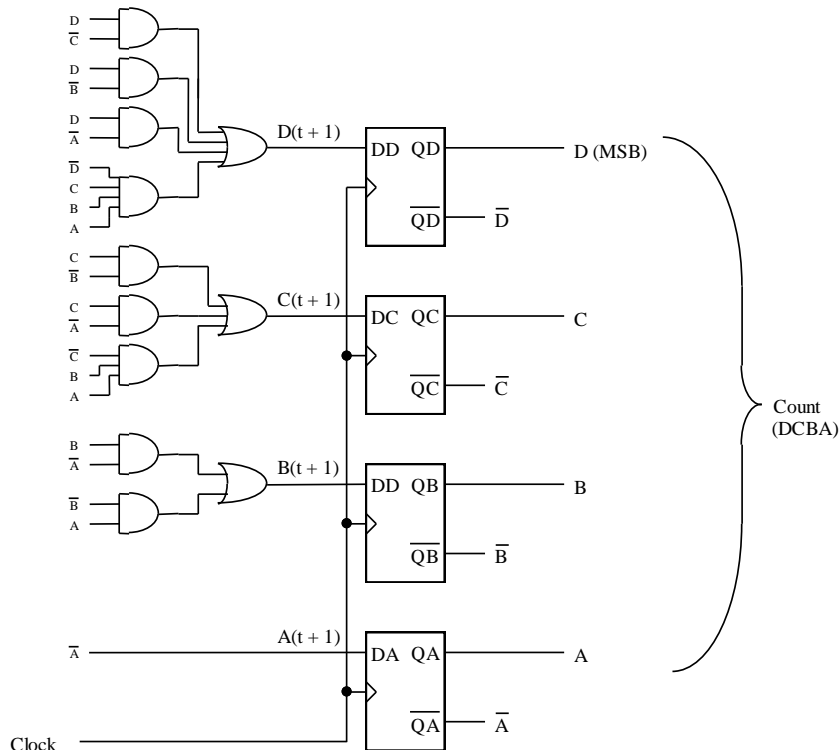

Figure 5: Logic Diagram for the 4-bit counter
The state equations above are implemented in the circuit shown below in Figure 5.
2. **Design the custom counter described above using D flip-flops and the state equation method.** Include the state table and Karnaugh maps used to determine the D flip-flop inputs. Draw the final circuit (similar to the one shown for the example in Figure 5). Assume that gates with any number of inputs are available. What is the total number of gates required (including the 3 flip-flops)?